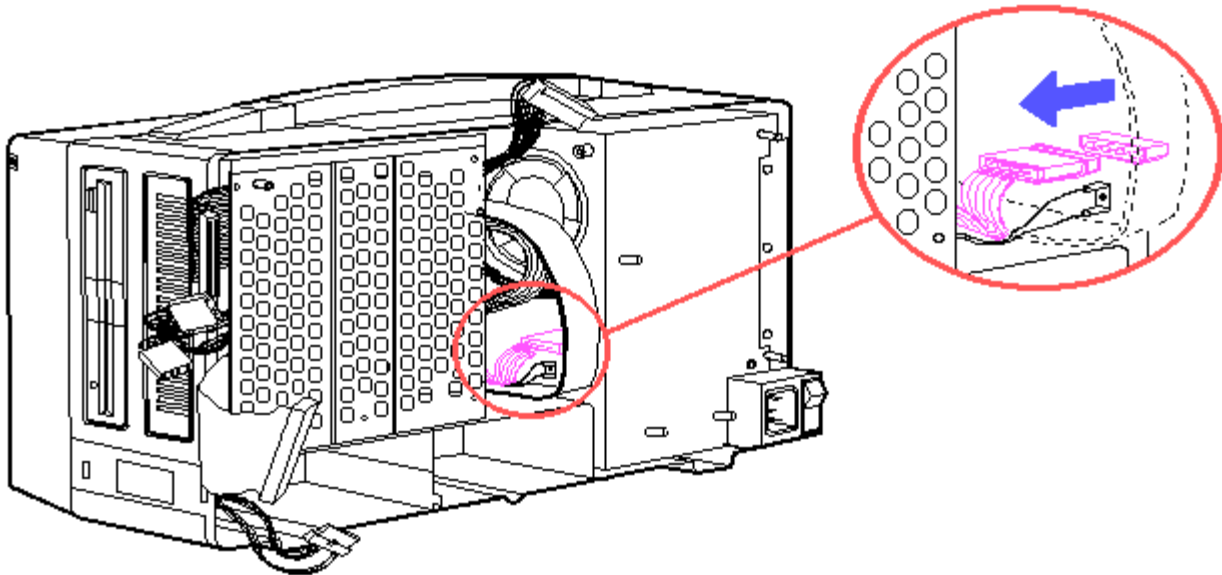

Figure 8-50. Disconnecting the Plasma Display Power Connector
8. Disconnect the plasma display power connector from the power supply (Figure 8-50).